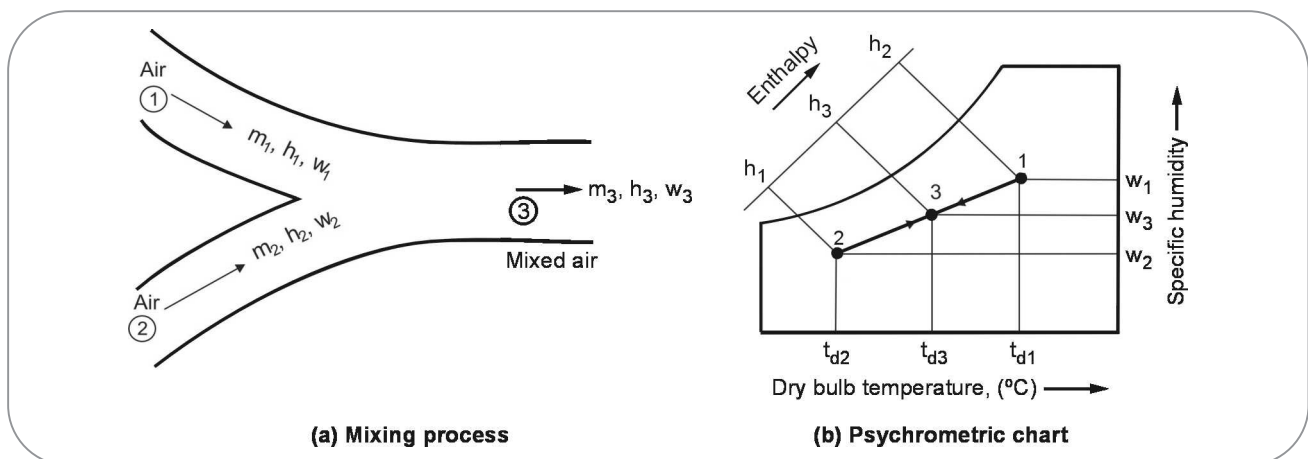

Fig. 5.87 : Adiabatic mixing of two air streams
$m_3, h_3$  and  $w_3$  = Corresponding values of mixture leaving at 3. Refer Fig. 5.87.
- The adiabatic process is represented on psychrometric chart as shown in Fig. 5.87 (b).